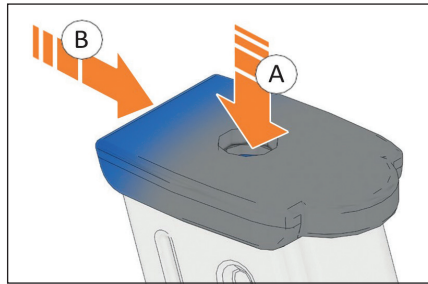

Figure 34 – Slide magazine floor plate forward
1. Using pin punch, push in magazine locking plate (A) and slide magazine floor plate forwards slightly (B) (Fig. 34).
2. Pull magazine floor plate off of magazine housing (Fig. 34).